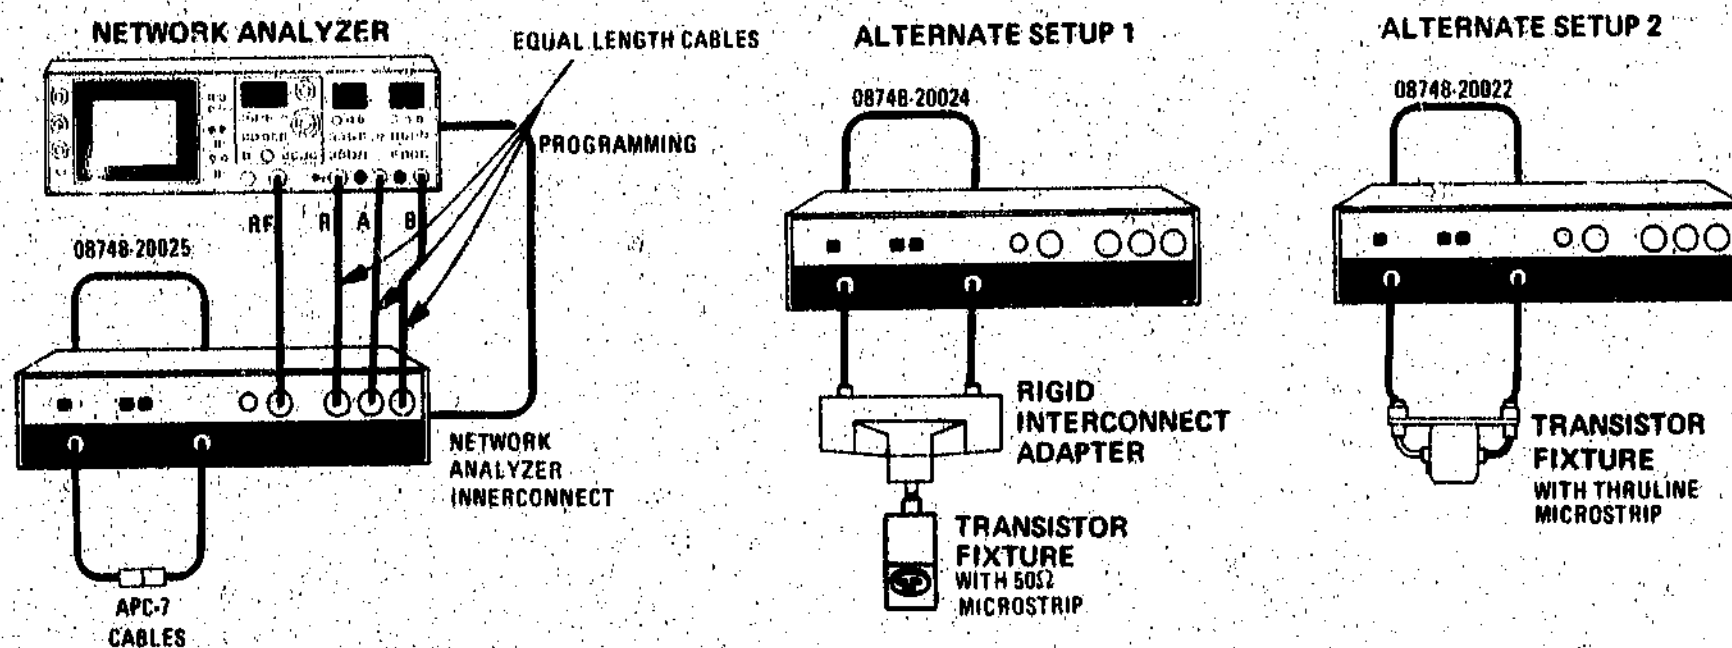

Figure 5-1. Delay Line Adjustment Test Setup
a. Connect equipment as shown in Figure 5-1. For access to the 8748A Delay Lines place the 8754A and 8748A on their sides.